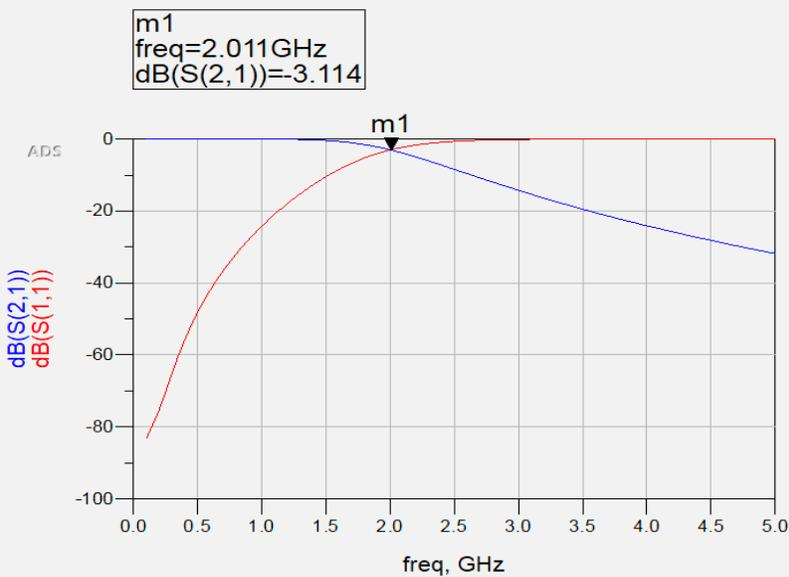

Figure 4. Graph showing the $S(1,1)$ and $S(2,1)$ of the lowpass filter
7. Click and insert a marker on $S(2,1)$ trace around 2GHz to see the data display graph as shown in Figure 4. The point at which $S(2,1)$ is at -3 dB is the cutoff frequency. According to our design, this should be around 2 GHz.